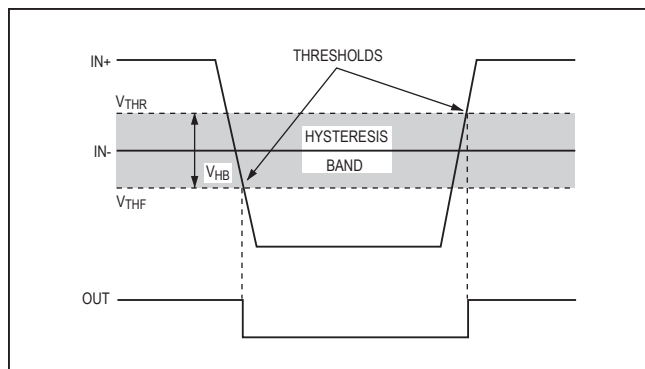

Figure 2. Threshold Hysteresis Band
**Note 3:** The hysteresis-related trip points are defined as the edges of the hysteresis band, measured with respect to the center of the band (i.e., VOS) (Figure 2).
The hysteresis in a comparator creates two trip points: one for the rising input voltage ( $V_{THR}$ ) and one for the falling input voltage ( $V_{THF}$ ) (Figure 2). The difference between the trip points is the hysteresis ( $V_{HB}$ ). When the comparator's input voltages are equal, the hysteresis
effectively causes one comparator input to move quickly past the other, thus taking the input out of the region where oscillation occurs. Figure 2 illustrates the case in which IN- has a fixed voltage applied, and IN+ is varied. If the inputs were reversed, the figure would be the same, except with an inverted output.